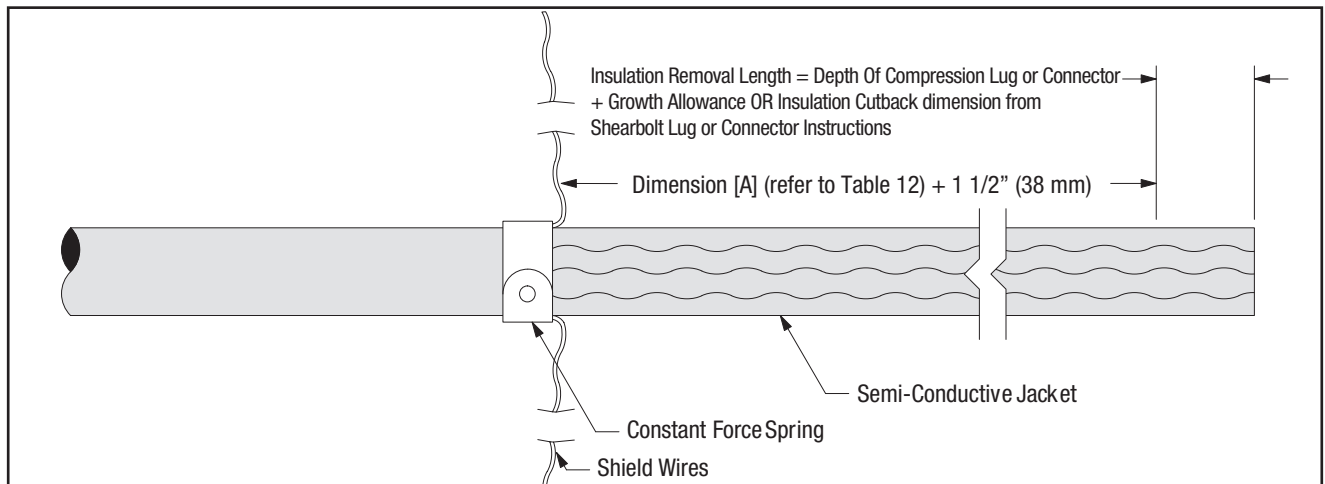

Figure 16
12.2 Prepare cable using dimensions shown in Figures 16, 17 and 18. **BE SURE TO ALLOW FOR DEPTH OF TERMINAL LUG OR CONNECTOR.**
- 12.4 Install constant force spring as shown in Figure 16. Pull shield wires through semi-conductive jacket to leading edge of constant force spring (Figure 16).
| Additional Semi-Conductive Jacket Length | + 1.5" | + 38 mm | Value from figure 16 |